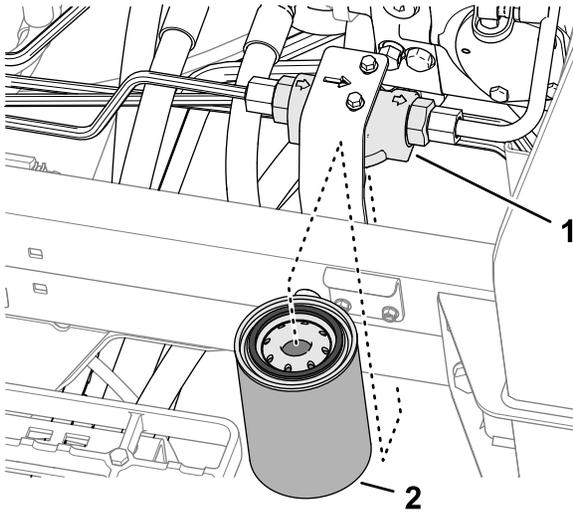

Figure 118
3. At the left side of the machine, align a drain pan under the charge filter (Figure 118).